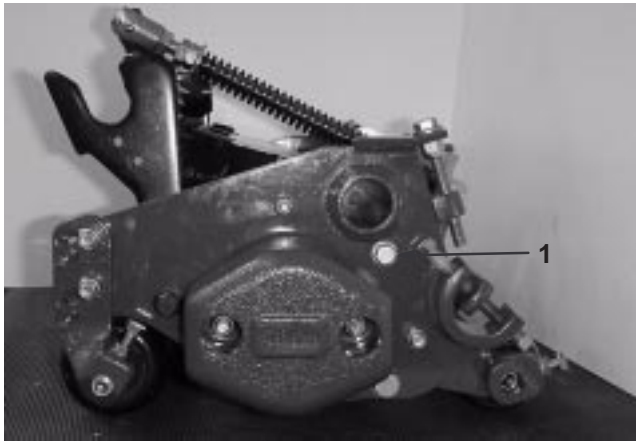

Figure 3
1. To open rear shield (Fig. 3), loosen flange head capscrew securing shield to right side plate, rotate shield to open position and tighten capscrew.